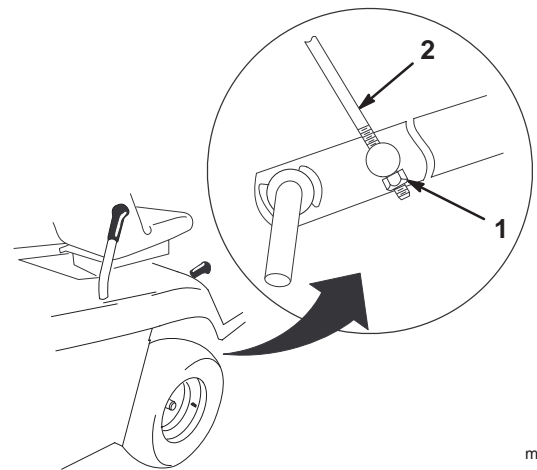

Figure 38
9. Adjust the M8 locknut at the end of the height adjustment rod assembly until the rod is slightly taut (Fig. 38).